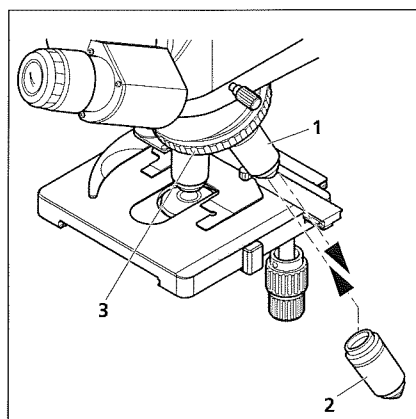

Fig. 14 Changing an objective
- Turn the nosepiece (Fig. 14/3) to move the objective to be changed (Fig. 14/1) into a lateral position.
- Screw the desired objective (Fig. 14/2) into the nosepiece as far as it will go.